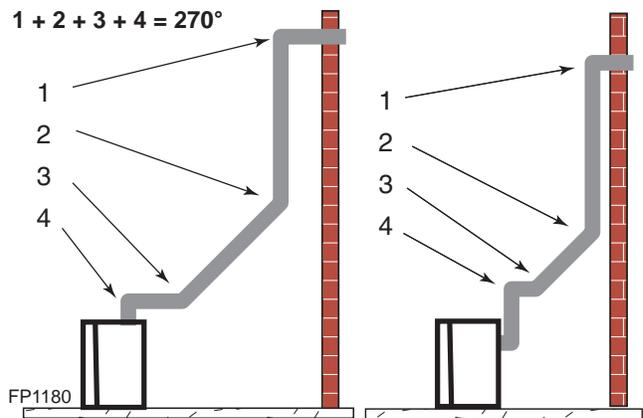

Figure 32 –
- The maximum number of 45° elbows permitted per installation is six (6). These elbows can be installed in either the vertical or horizontal run.
- The maximum number of elbow degrees in a system is 270°. *Figure 32*